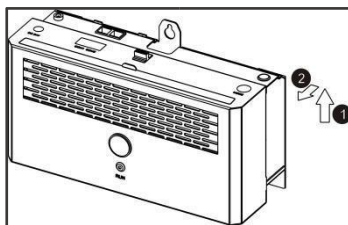

Figure 4.10 Schematic diagram of photocatalyst component maintenance step 3
- 3) Lift the shell up, and then move outward to expose the photocatalyst component, as shown in Figure 4.10;